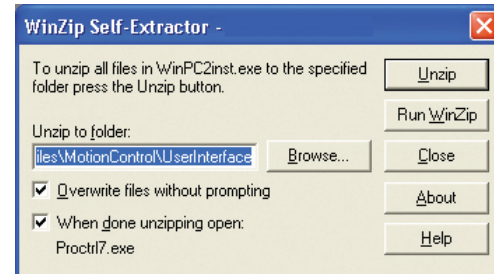

Fig. 1 WinZip self-extractor will automatically install to your hard drive. Just click "Unzip."
1. Insert CD or 3.5" floppy disk into your PC and double-click on the file "U3PC2inst.exe." A window will open asking if you want to install the program; click **YES**. The program will automatically load on your "C" drive when you click on "Unzip," unless you specify otherwise (fig. 1).